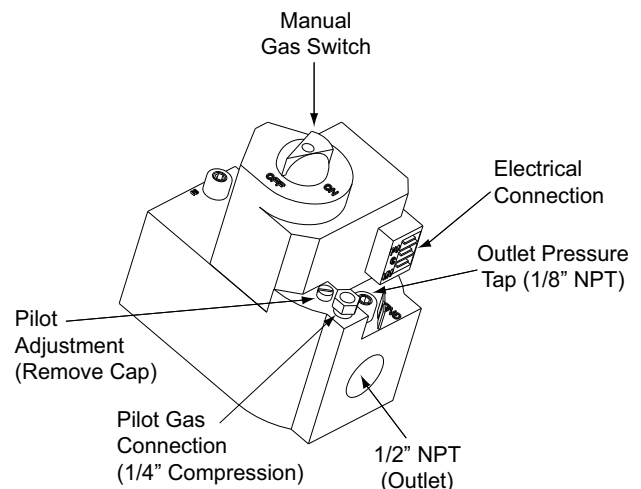

Figure 15: Single Stage Gas Valve - Front
Small adjustments to the gas flow may be made by turning the pressure regulator adjusting screw on the automatic gas valve. Refer to Figures 15 and 16.
1. Remove the cap from the valve body. See Figures 15 and 16 for location.